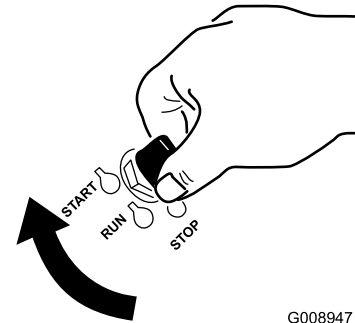

Figure 18
6. Turn the ignition key to the START position (Figure 18).